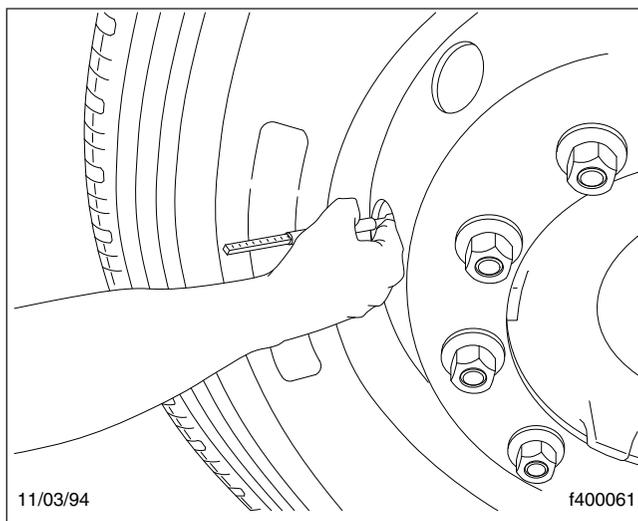

Fig. 10.5, Checking Tire Pressures
- 20.1 Check the inflation pressures of the tires before each trip, using an accurate tire pressure gauge. See Fig. 10.5. Check tire pressures when the tires are cool. The maximum inflation pressure for each tire is provided on the outer wall of the tire. Inflate the tires to the applicable pressures, if needed. Be sure that valve stem caps are used on every tire, and that they are screwed on finger-tight.